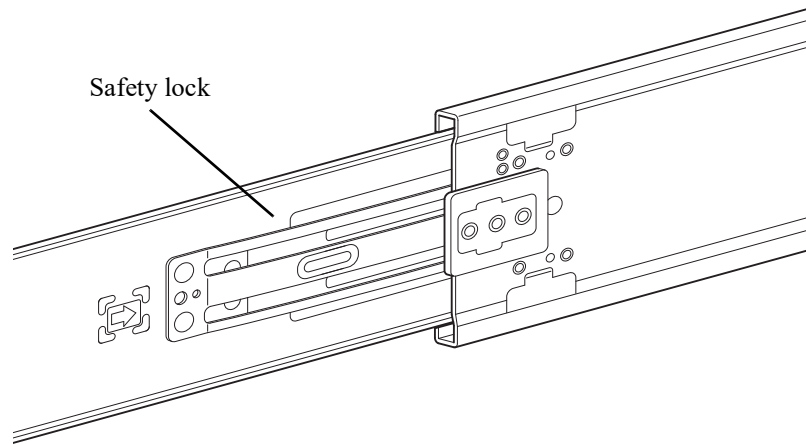

Figure 27 Pressing the safety lock
3. Flip the rail kit, press the Safety lock (Figure 27) to unlock the inner rail, and slide it out from the mid rail.